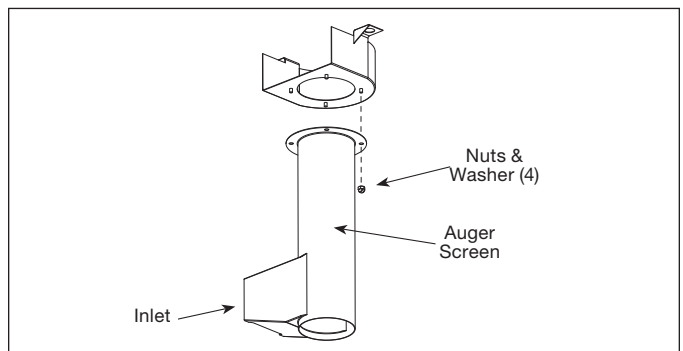

Figure 16.
- E. Remove four nuts and washers holding the top portion of the auger screen to the bottom portion (see Figure 16).